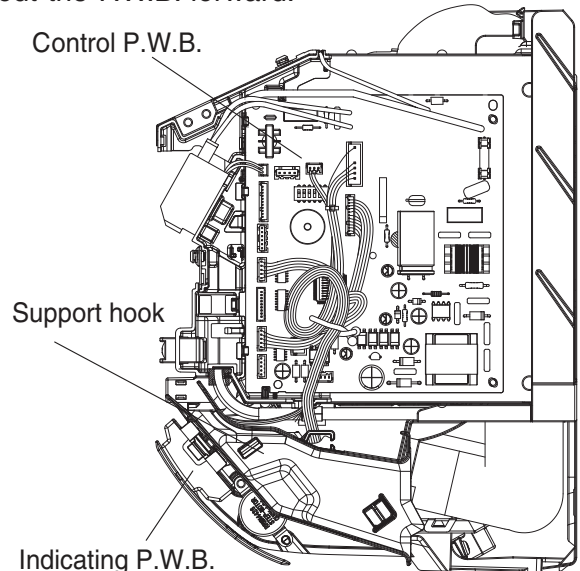

Fig. 3
- (1)The total hours of air conditioning operation is more than 42 hours(SLEEP、ON TIMER operation will take 84 hours), And air conditioner is operated for more than 30 minutes, Meanwhile, the outdoor temperature and indoor humidity are suitable for the Frost Wash(Area A、B in Fig.3、4),Frost Wash (auto) start;
- (2)Within 2 hours before the ON TIMER designated time,Frost wash(auto) cannot be operate;
- (3)ONCE TIMER (ON/OFF TIMER) operation cannot be set ,when Frost wash(auto) is running;
- (4)When the Frost Wash is stopped during Frost Wash operation, the unit automatically restart Frost Wash at the next operation stop.
- (5)Before the Frost period start,the outdoor temperature $\geq 16^{\circ}\text{C}$. Or before the defrosting period finish,the heat exchanger temperature $\geq 0^{\circ}\text{C}$. The Heating period will not running. Fan period 1~ Fan period 2 all turn to Fan operation
- (6)In frost period ,The maximum time is 10 minutes after the heat exchanger temperature $\leq -10^{\circ}\text{C}$
- (7)Heating period will finish after the heat exchanger temperature $\geq 35^{\circ}\text{C}$,remanent time turn to Fan period 2,the total time unchanged
- (8)Fan period 1~ Fan period 2 will not running,when last operation was HEATING;
- (9)When device operat Frost wash during ON condition,the device will stop and have blance time(3 minutes)
- (10)Before the Frost period start,OH temperature $\geq 60^{\circ}\text{C}$,Original blance period time will add 3 minutes